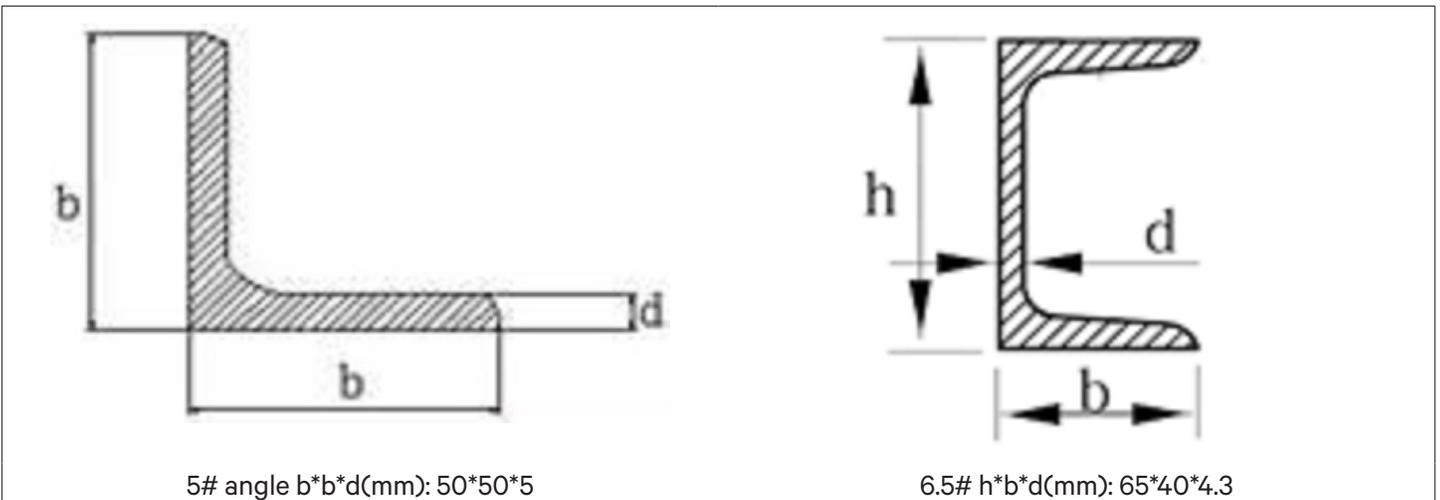

Figure 2-16 Angle and Channel for Brackets
- Use 5# angle iron for bracket, when two units are installed with one above the other, refer Figure 2-16.
- Use 6.5# channel steel for bracket, when three units are installed with one above the other, refer Figure 2-16.